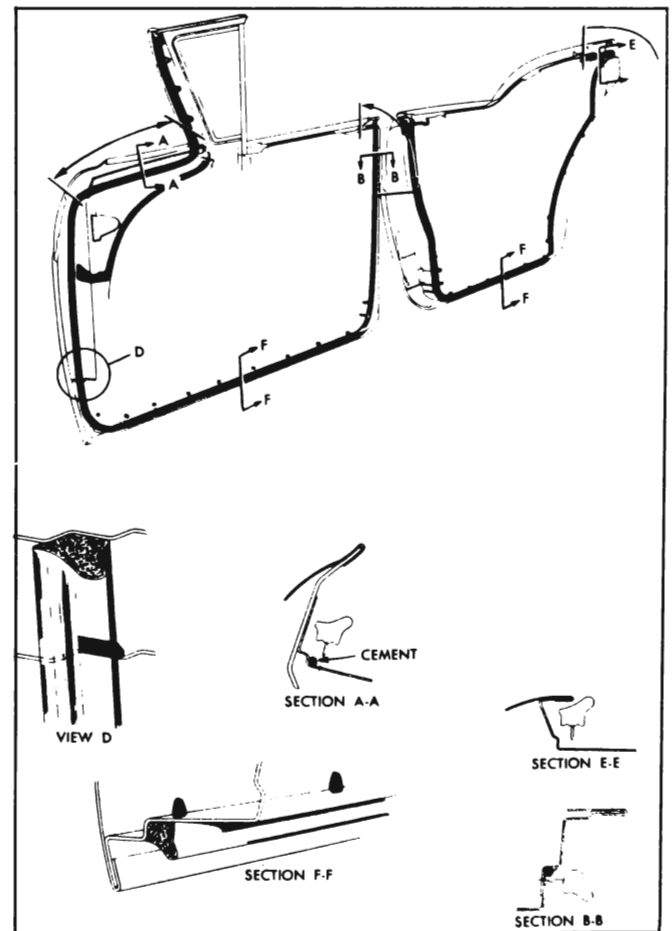

Figure 13-29—Door Weatherstrips
(a) On front door, apply cement from point three (3) inches above "cove" area completely around "cove" area as indicated in section "A-A", Figure 13-29. Apply cement in corner of rabbet on door beginning at lock pillar end of weatherstrip and extending downward to
a point just below the second clip as shown in section "B-B". Apply cement to joint of door inner panel and door hinge pillar as indicated in View "D", Figure 13-29, to prevent water from entering under weatherstrips. Clean off excess cement.
11. Working through access hole apply medium-bodied sealer over and around weatherstrip attaching clips as indicated in section "F-F", Figure 13-29.